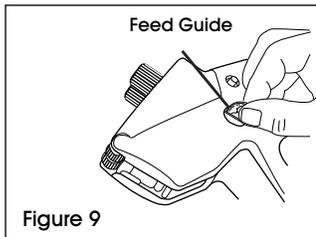

Figure 9
2. Place small coin in feedwheel button slot. (See Figure 9)